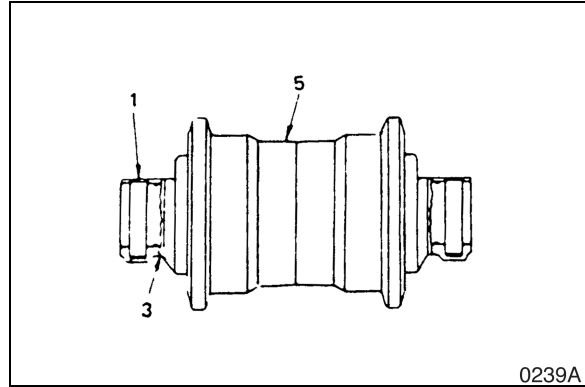

Figure 36
6. Install the collar (3, Figure 36), O-ring (2), and pin (1) on the remaining side.